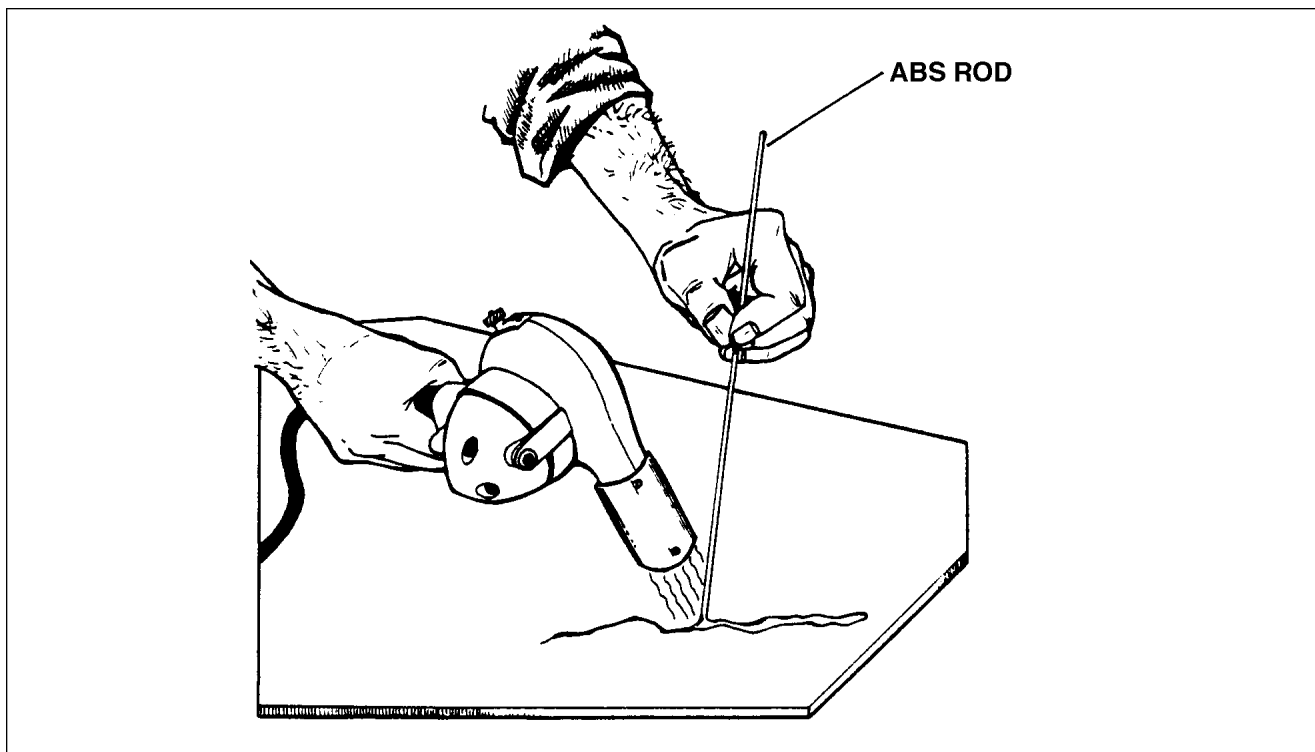

Figure 4-17. Welding Repair Method
9. The welding method requires a hot air gun and ABS rods. To weld, hold gun to direct the flow of hot air into repair zone. Heat damaged area and rod simultaneously. Move the gun continuously in a fanning motion to prevent discoloration of material. Pressure must be maintained on rod to ensure good adhesion (Refer to Figure 4-17).